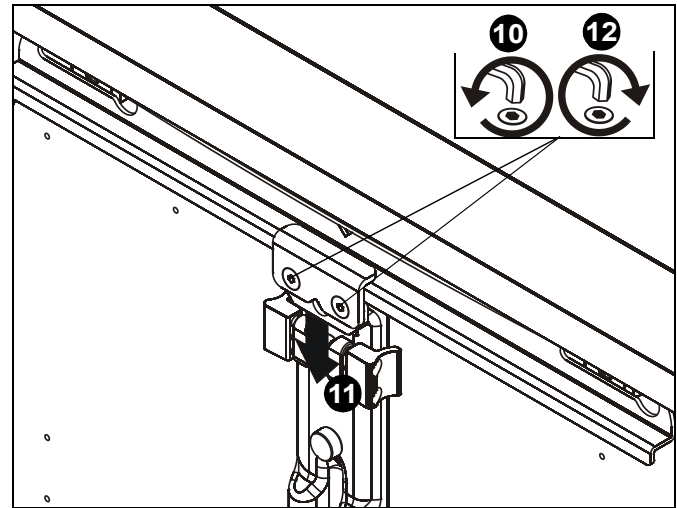

Figure 13
10. Loosen flat head cap screws on upper carriage rail in order to loosen white spacer. (See Figure 13)
11. Remove white spacer from mount. (See Figure 13)
12. Tighten flat head cap screws. (See Figure 13)